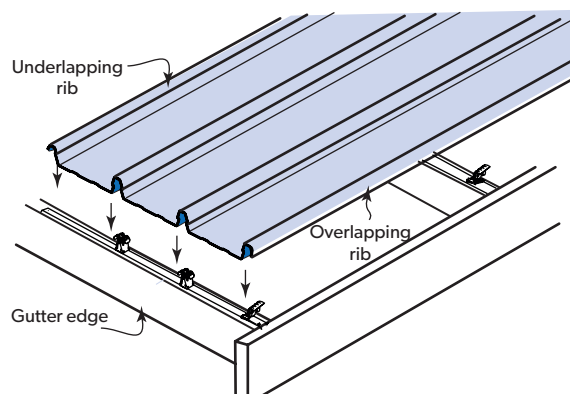

FIGURE 9.1.10B:
9. Fix the initial overlapping rib of the first sheet using an 'S' clip. (See Figure 9.1.10b).